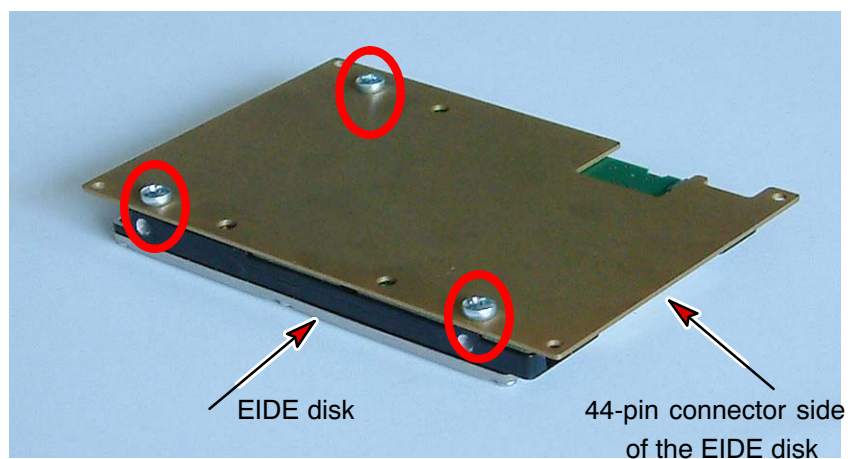

Figure 13: Fixing the EIDE Disk
2. Fix the EIDE disk on the mounting plate using the three M3x5mm Torx screws as shown in Figure 13.